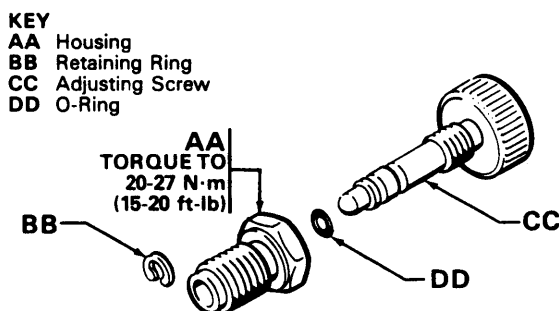

Fig 14
Place a wrench on the flats of fan valve assembly (57) housing (AA) and remove it from the handle. Remove the retaining ring (BB). Rotate the adjusting screw (CC) *counterclockwise* removing it from valve housing (AA). Clean all parts, inspect for wear or damage, and replace if necessary. See Fig 14.